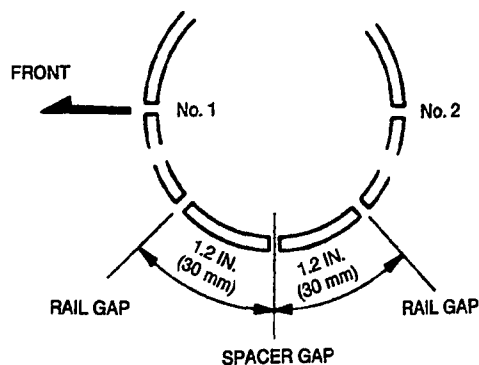

FIGURE 9-50. PISTON RING GAP POSITION
3. The oil ring should be rotated so that the spacer gap is 1.2 inch (30 mm) apart from each of the upper and lower rail gaps and that the gaps or these parts are apart from one another. See Figure 9-50. Piston ring gaps must not be in line with each other and must be off the thrust direction as shown.